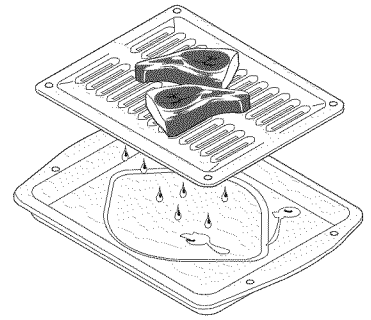

Figure 1
5. Place the insert on the broil pan, then place the food on the insert (See Fig. 1). **DO NOT** use the broil pan without the insert or cover the insert with **aluminum foil**. The exposed fat could ignite.